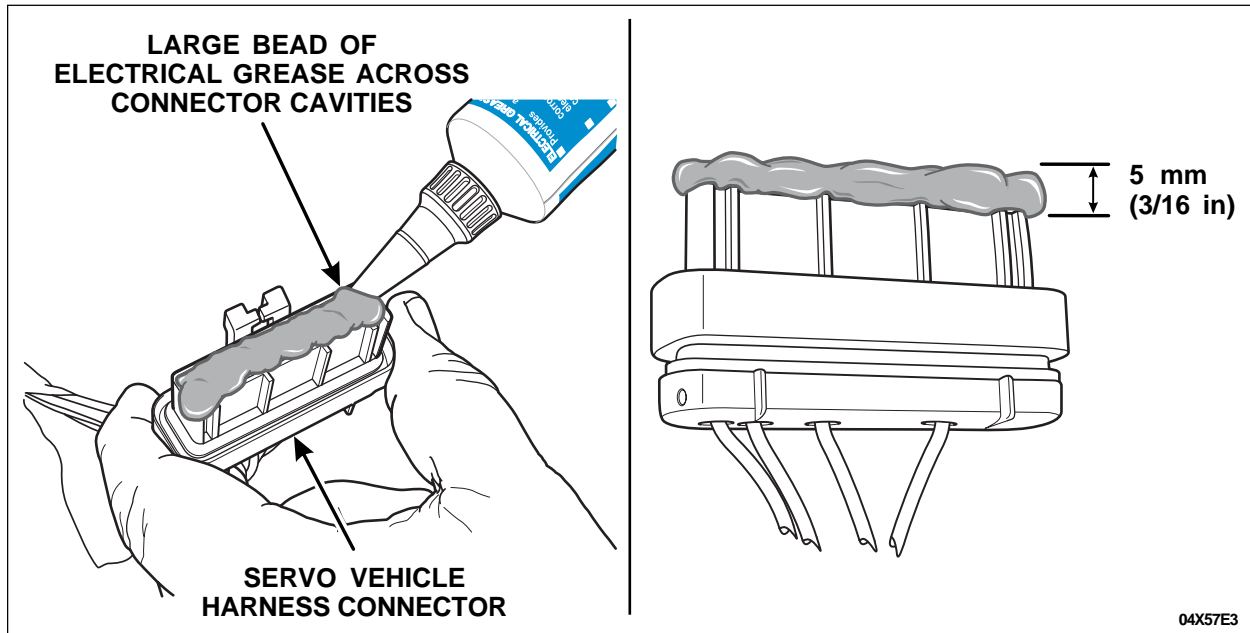

FIGURE 5
11. Apply a 5 mm (3/16 in) high bead of Motorcraft Electrical Grease II XG-15-A across the entire width and length of the servo vehicle harness connector. See Figure 5.